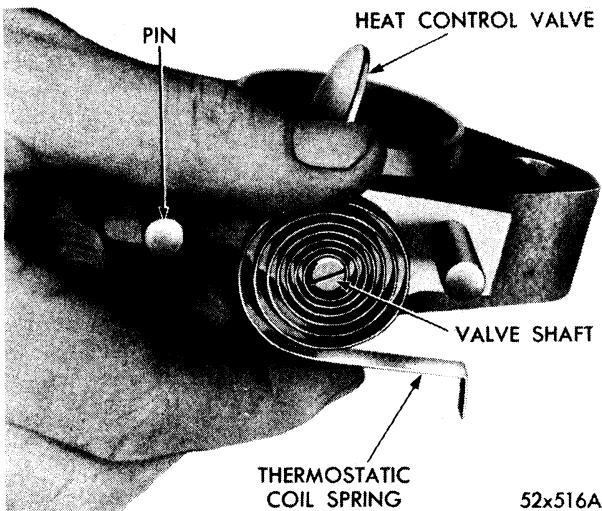

Fig. 13—Installing Thermostatic Coil Spring
- (1) Position the valve shaft in the extreme counter-clockwise position. Place new coil spring in position over shaft slot, with outer end tongue of spring in the upper left-hand position, as shown in Figure 13. Press the inner end of the coil into slot of the shaft and seat firmly.
- (2) Move outer end tongue of spring around and